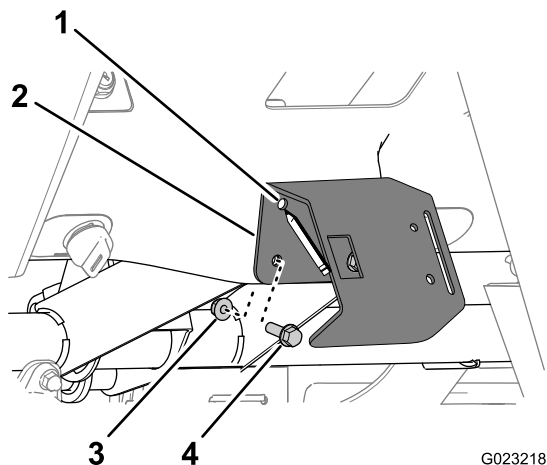

Figure 17
- Align 3 of the holes in the hand-throttle bracket with the 3 holes in the dash panel (Figure 17).
- Secure the hand-throttle bracket to the dash panel with the 3 flange bolts (5/16 x 1 inch) and 3 flange nuts hand tight (Figure 17).
- Mark the outline of the upper-right hole in the hand-throttle bracket onto the dash panel (Figure 17).
- Align the holes in the hand throttle bracket with the holes in the dash panel (Figure 17).
- Secure the hand-throttle bracket to the dash panel with the 4 flange bolts (5/16 x 1 inch) and 4 flange nuts (Figure 17).